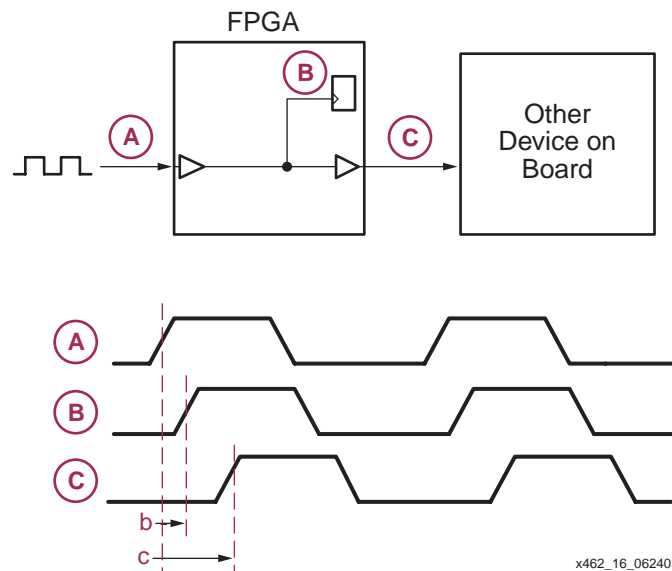

Figure 16: Clock Skew Inherently Exists in Every Synchronous System
Figure 16 illustrates clock skew in an example system. A clock source drives the clock input to an FPGA. The clock enters through an input pin on the FPGA, is distributed within the FPGA using the internal low-skew global clock network, and arrives at a flip-flop within the FPGA. Each element in the clock path delays the arrival of the clock edge at the flip-flop. Consequently, the clock input at the flip-flop—Point (B)—is delayed, or skewed compared to the original clock source at Point (A). In this example, this clock skew or difference in arrival time for this path is called Δb .
Is there a way to eliminate clock skew? Fortunately, a Digital Clock Manager (DCM) provides such capabilities. Figure 17 shows the same example design as Figure 16, except this time implemented in a Spartan-3 FPGA. Two DCMs eliminate the clock skew: One DCM eliminates the skew for clocked items within the FPGA, the other DCM eliminates the skew when clocking the other device on the board. The result is practically ideal alignment between the clock at Points (A), (B), and (C)!